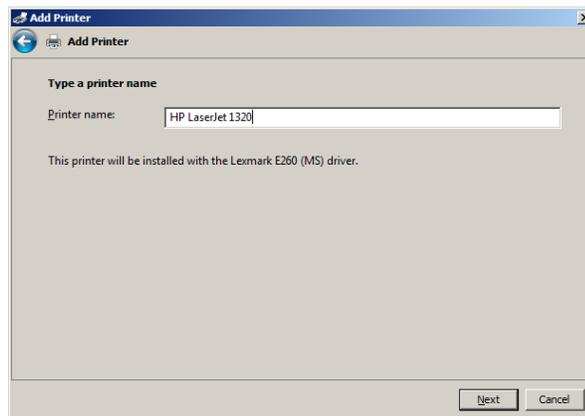

Figure 10-25 - Name the new Printer
11) Enter the name you would like to call the printer. See Figure 10-25 below.